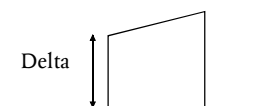

Figure 97 Delta amplitude
- 2 Delta. The amplitude of a level is the change from the pre-amplitude to the post-amplitude of the event that begins the level. For example, if the pre-amplitude of the event that begins the level is 0.2pA, and the post-amplitude -1.3pA, the amplitude of the level is -1.5pA. ☞ Figure 97.